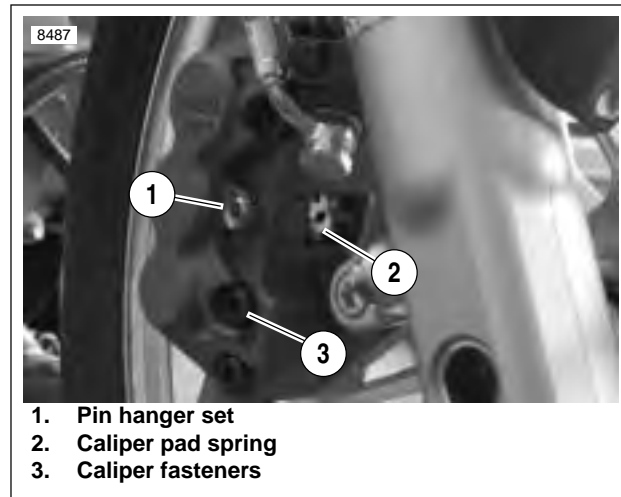

Figure 2-42. Pad Spring (Typical)
1. See Figure 2-42. Remove pin hanger set (1), brake pads and caliper pad spring (2).